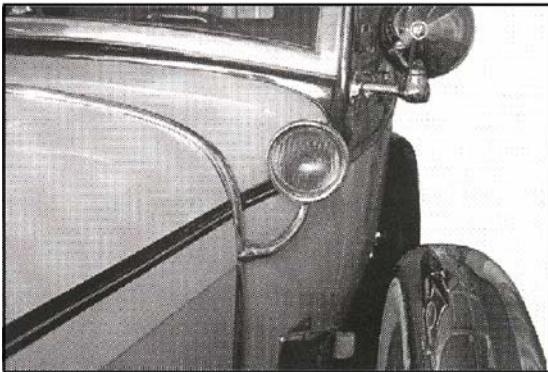

Figure 4-236
- Existing cowl lights can also be wired and used as front turn signals (Figure 4-236). Cowl lights can be added for turn signal lights (refer to page 4-19 in "Model A Ford Mechanics Handbook, Volume II by Les Andrews (our part #AMH2) for addition of cowl lights).